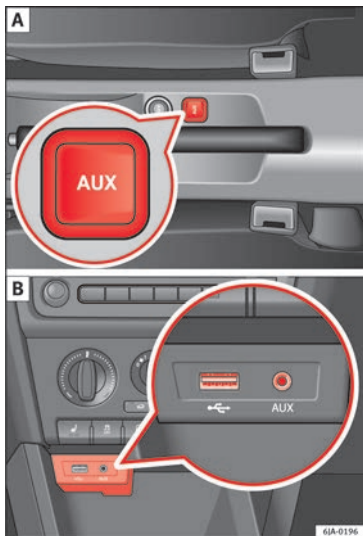

Fig. 34 AUX-IN input/MDI input.
- in the centre console between the front seats » Fig. 34 - A;
- above the storage compartment in the front centre console » Fig. 34 - B;
The MDI input is located above the storage compartment in the front centre console » Fig. 34 - B;